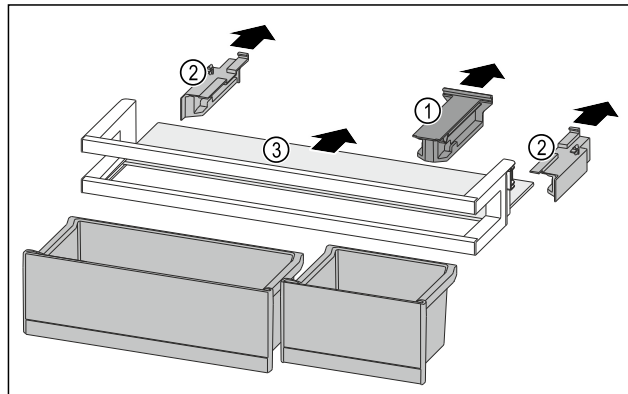

Fig. 110
- ▶ Pull off the retaining part Fig. 110 (1).
- ▶ Pull off the side part Fig. 110 (2).
- ▶ Remove the shelf Fig. 110 (3).